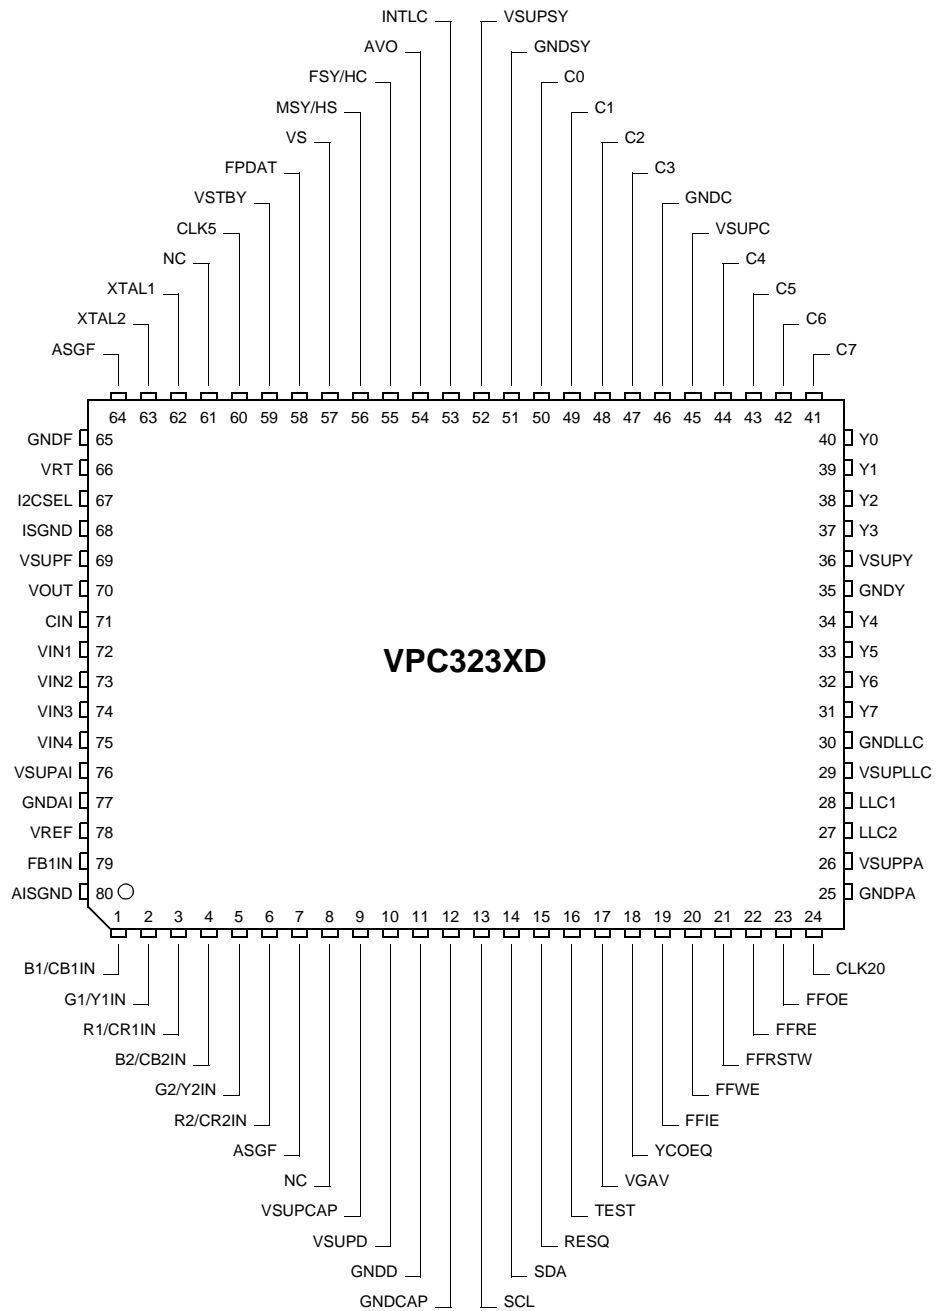

Fig. 4–2: 80-pin PQFP package
Pin 54 – Active Video Output, AVO (Fig. 4–4)
Pin 55 – Front Sync/Horizontal Clamp Pulse, FSY/HC (Fig. 4–4)
Pin 56 – Main Sync/Horizontal Sync Pulse MSY/HS (Fig. 4–4)
Pin 57 – Vertical Sync Pulse, VS (Fig. 4–4)
Pin 58 – Front-End/Back-End Data FPDAT (Fig. 4–5)
Pin 60 – CCU 5 MHz Clock Output CLK5 (Fig. 4–10)
Pins 62 and 63 – XTAL1 Crystal Input and XTAL2 Crystal Output (Fig. 4–7)
Pin 66 – Reference Voltage Top VRT (Fig. 4–8)
Pin 68 – Signal GND for Analog Input ISGND (Fig. 4–10) This is the high quality ground reference for the video input signals.
Pin 69 – Supply Voltage, Analog Front-End  $V_{\text{SUPF}}$  (Fig. 4–8)
Pin 70 – Analog Video Output, VOUT (Fig. 4–6)
Pin 71 – Chroma Input CIN (Fig. 4–9)
**Pins 72-75 – Video Input 1–4 (Fig. 4–11)**
**Pin 78 – Reference Voltage Top VREF (Fig. 4–8)**
**Pin 79 – Fast Blank Input FB1IN (Fig. 4–10)**
**Pin 80 – Signal GND for Analog Component Inputs AISGND (Fig. 4–10)**